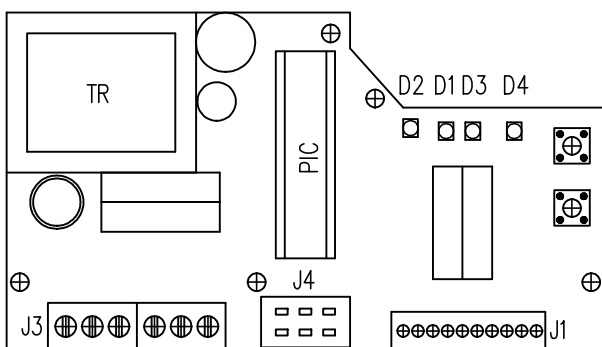

Fig.10
**4.7 Adjustment of position controller (Fig. 10)**
Laying of adjusters and signaling elements on the board of the REGADA controller is shown on Fig. 10: